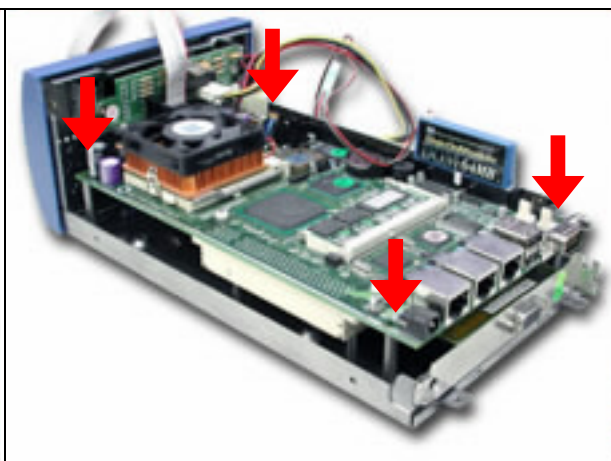

Fig. 2-35 Reinstall after adding a PCI card
3. Fix the board back in position with four screws (*Fig. 2-35*).